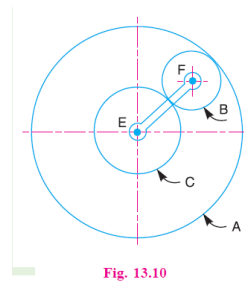

Fig. 13.10
- 2 An epicyclic gear consists of three gears A, B and C as shown in Fig. 13.10. The gear A has 72 internal teeth and gear C has 32 external teeth. The gear B meshes with both A and C and is carried on an arm EF which rotates about the centre of A at 18 r.p.m.. If the gear A is fixed, determine the speed of gears B and C. **12M**